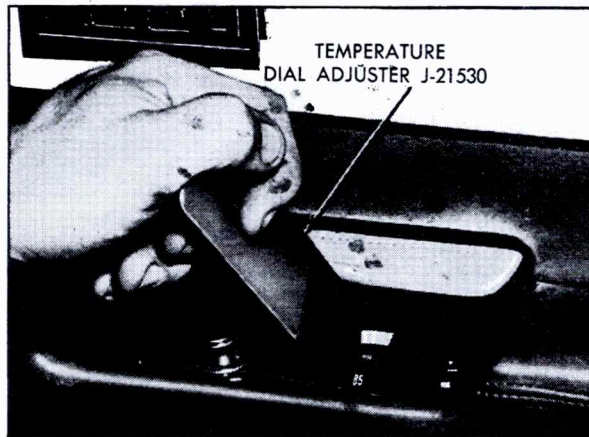

Fig. 1-88 Adjusting Rear Temperature Dial
1. Insert Temperature Dial Adjuster, J-21530, between temperature dial and casting, Fig. 1-88.